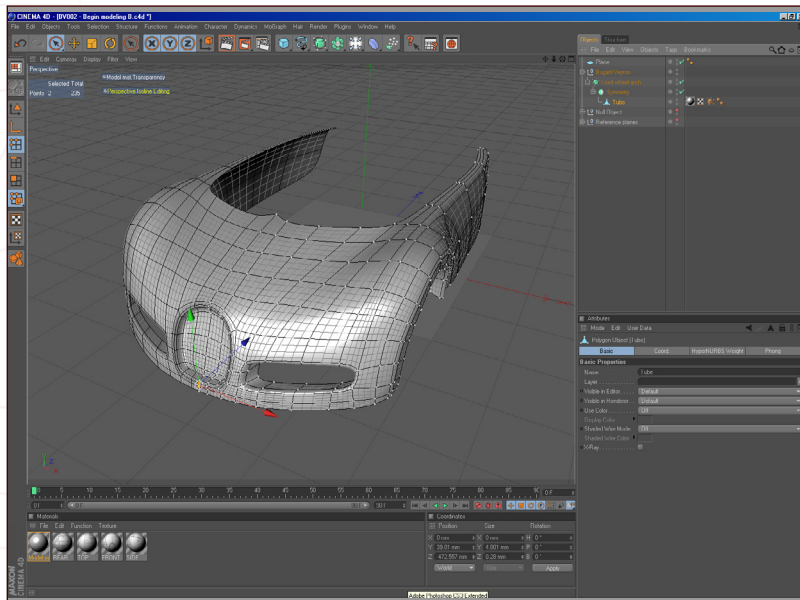

Fig 23
22. The front section of the car is now complete (**Fig23**). Detailing for this section will carry on in the next part of the tutorial.